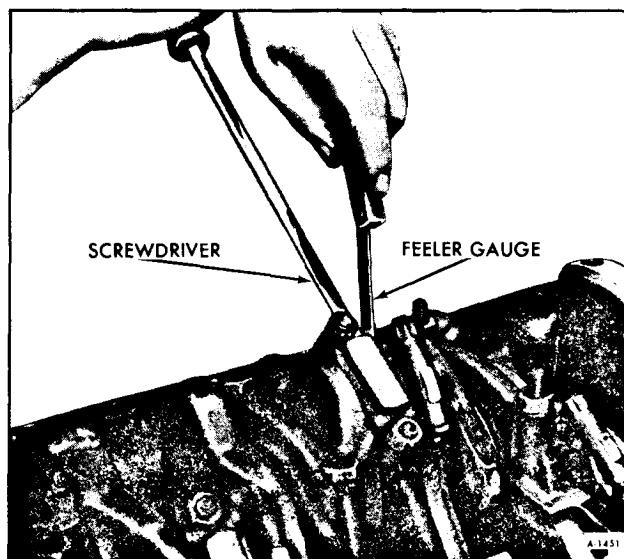

Figure 39—Connecting Rod Side Clearance
9. Spread rods with screwdriver and measure the rod side clearance as shown in Figure 39. Clearance should be .006" to .020".
The clearance between the adjacent rods, when checked with a feeler gauge on each crankpin, should be from .006" to .020". Refer to Figure 39.